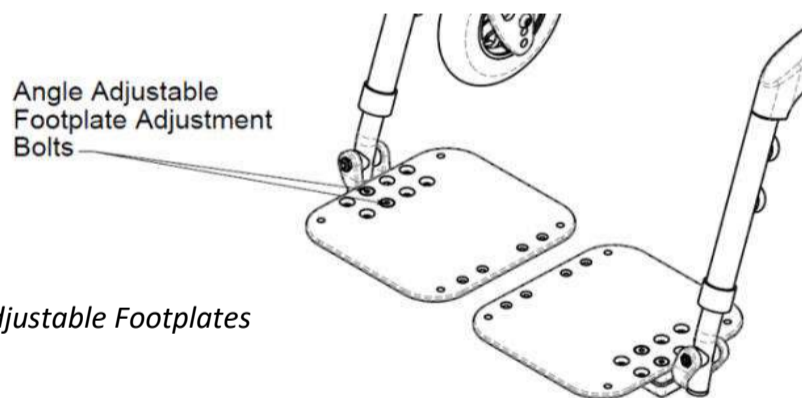

Figure 14.17: Angle Adjustable Footplates
1. Loosen the angle adjustable footplate adjustment bolts as shown in Figure 14.17.
1. Remove the angle adjustable footplate adjustment bolts as shown in Figure 14.17.
1. Loosen the angle adjustable footplate adjustment bolts (See Figure 14.17).
1. Remove the angle adjustable footplate adjustment bolts shown (See Figure 14.17).